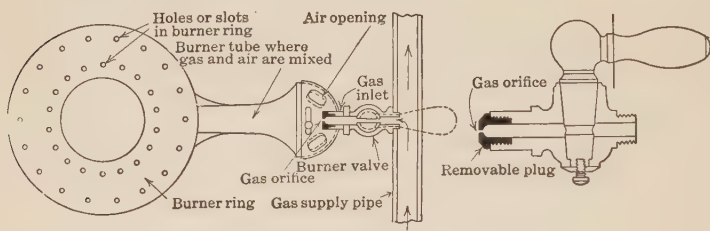

FIG. 73. — The gas burner.
92. Top burners. The top burners, Fig. 73, are of the Bunsen type; that is, there is a burner tube at the base of which is a small orifice for the entrance of gas. Air enters the burner-tube openings in the shutter and mixes with the gas. The mixed gases pass through a small hole in the burner ring